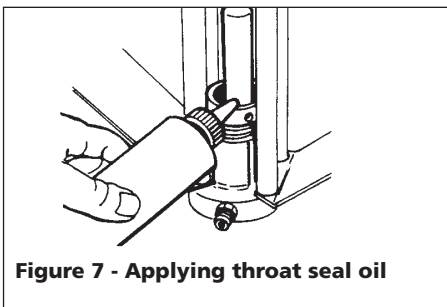

Figure 7 - Applying throat seal oil
2. Fill the Packing Nut/Wet Cup 1/3 full with Throat Seal Oil (TSO) supplied (see Figure 7).